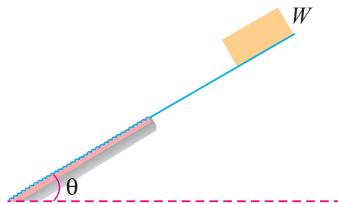

Fig. 8.19.
**Example 8.12.** The upper half of an inclined having inclination  $\theta$  with the horizontal is smooth, while the lower half in rough as shown in Fig 8.19.